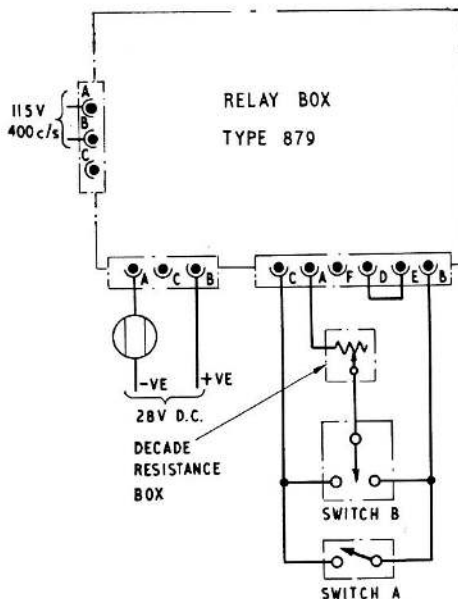

Fig. 1. Test circuit diagram
3. (1) Connect the relay box to a test circuit, as shown in fig. 1, using suitable 6-pole and 3-pole sockets.